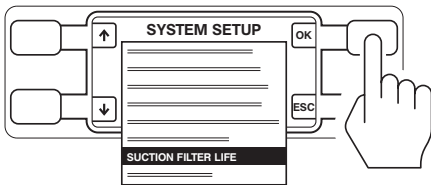

Figure 5 – To Select Suction Filter Option
4. From the SYSTEM SETUP screen, push the buttons next to the arrow icons to highlight the SUCTION FILTER LIFE. Push the button next to OK to make selection (Figure 5).